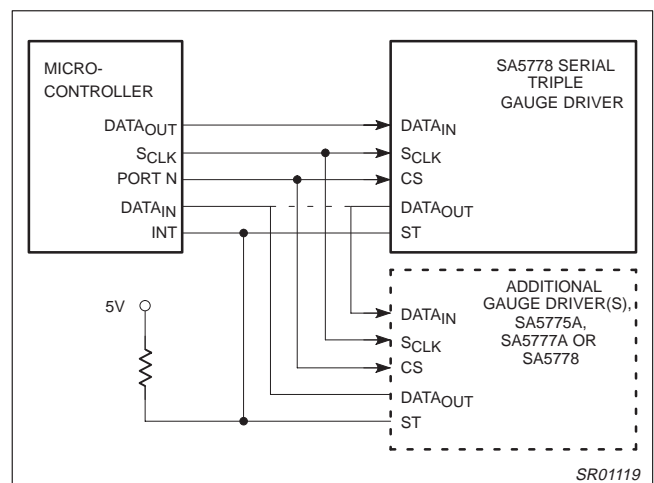
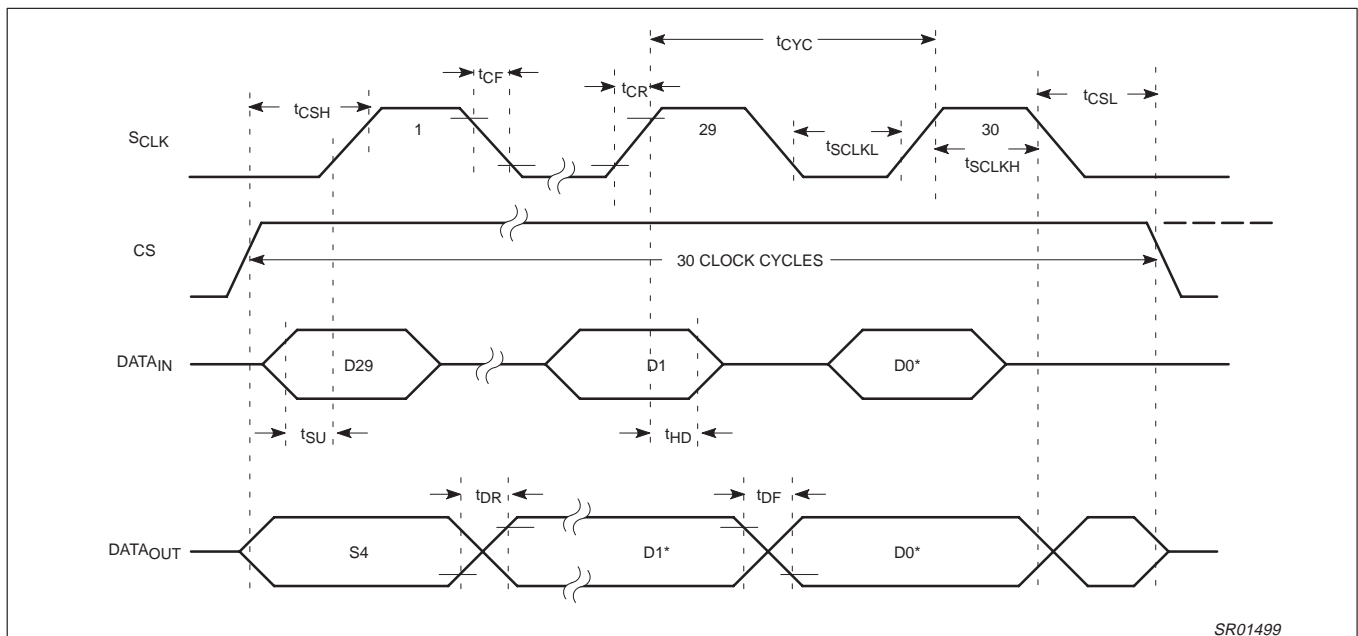
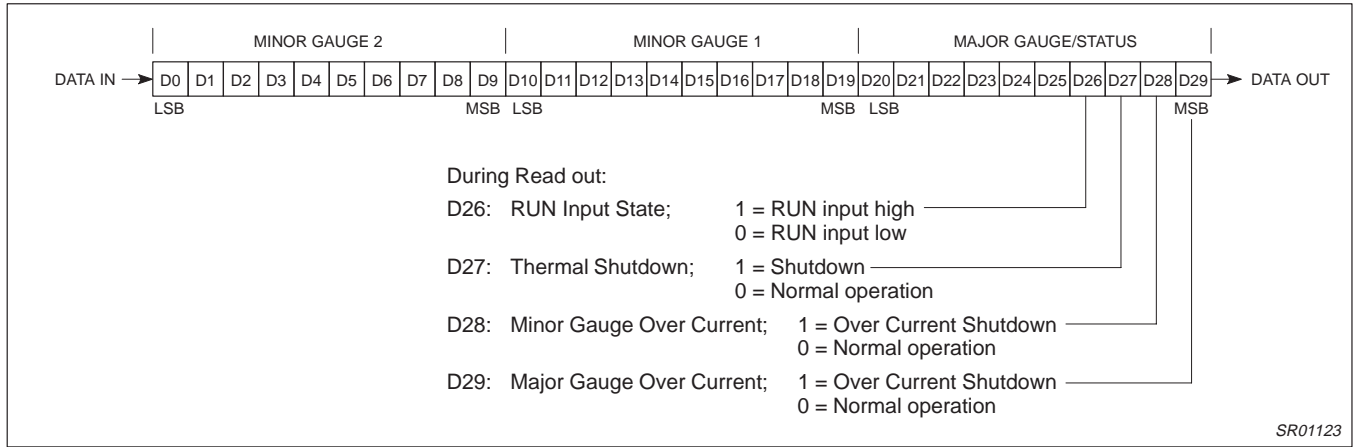

Figure 4. Serial Communications Between STGD, Microcontroller and Other Gauge Drivers
Figure 10. Serial Interface Timing
Figure 11. Internal Shift Register
Figure 4 demonstrates the connections between the STGD, the microcontroller, and optionally additional gauge drivers such as the SGD and DGD. With an active high on the chip select input (CS), data is shifted into the STGD through DATA_{IN} on the rising edge of S_{CLK}. Several gauge drivers may be wired in series using a common chip select and clock line, when more than three gauges are needed. The DATA_{OUT} pins are cascaded to the DATA_{IN} pins of the following gauge drivers. Status information can be returned to the microcontroller via the ST pins of each gauge driver. These are open-drain, active low outputs, which may be wire OR'ed together to signal that a fault, such as a thermal shut down, has occurred within one of the gauge drivers. This pin may be connected to a microcontroller port pin for polling in software, or may be connected to an external interrupt input to cause entry into an interrupt service routine. The STGD, may also pass status information back to the microcontroller serially. The rising edge of chip select loads status information into the shift register for the first four bits that will be shifted out of the STGD by the shift clock. Figure 11 shows the data bits within the shift register. A low on the ST pin signals that one or more status bits have been set in the status register. A high indicates all status bits are reset. The status output bits include minor gauge over current, major gauge over current, thermal shutdown and RUN. Gauge data is captured in latches by the falling edge of the chip select.
Figure 10 demonstrates the serial interface timing referenced in the AC specifications. Figure 11 shows the order of information transfer through the serial interface. On a low to high transition of the CS pin, status information replaces the four most significant bits of data in the shift register and are the first bits shifted out. Output data is changed on the falling edge of S_{CLK} , while input data is captured on the rising edge of S_{CLK} . Major gauge data is loaded first, starting with the most significant bit, followed by minor gauge 1 data then minor gauge 2 data.